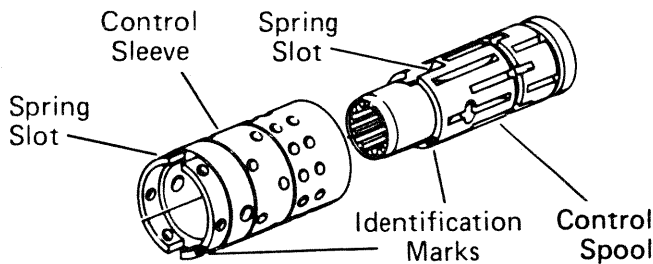

Figure 13
- 6 Assemble spool and sleeve carefully so that the spring slots line up at the same end. Rotate spool while sliding parts together. Some spool and sleeve sets have identification marks, align these marks as shown in Fig. 13. Test for free rotation. Spool should rotate smoothly in sleeve with finger tip force applied at splined end.